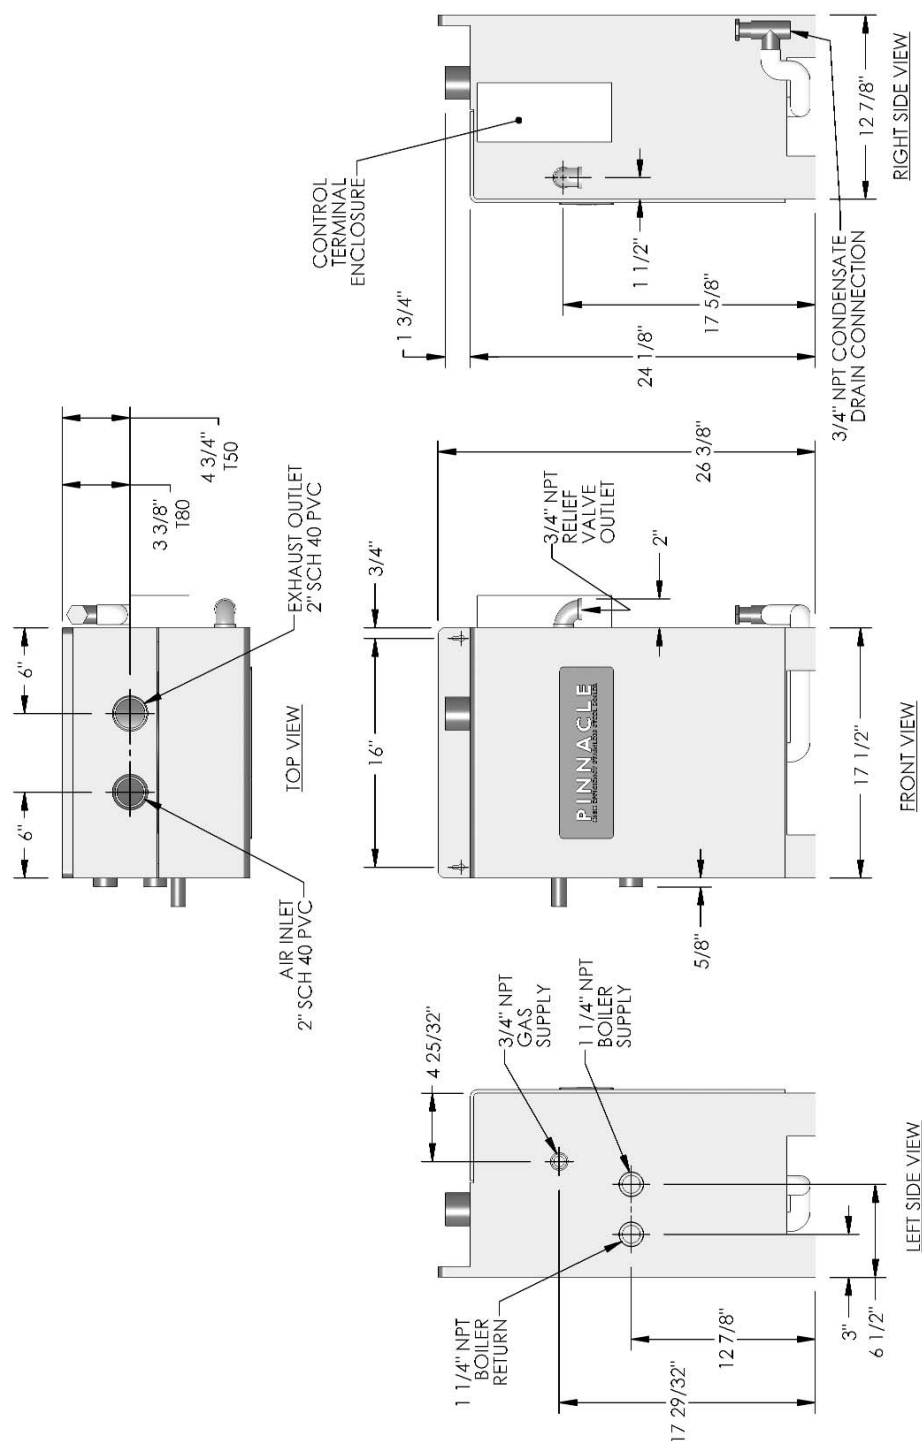

Figure 10.1: PI-T50/PI-T80 Dimensions
- Figure 10.1 shows the dimensions of the PI-T50 and PI-T80.